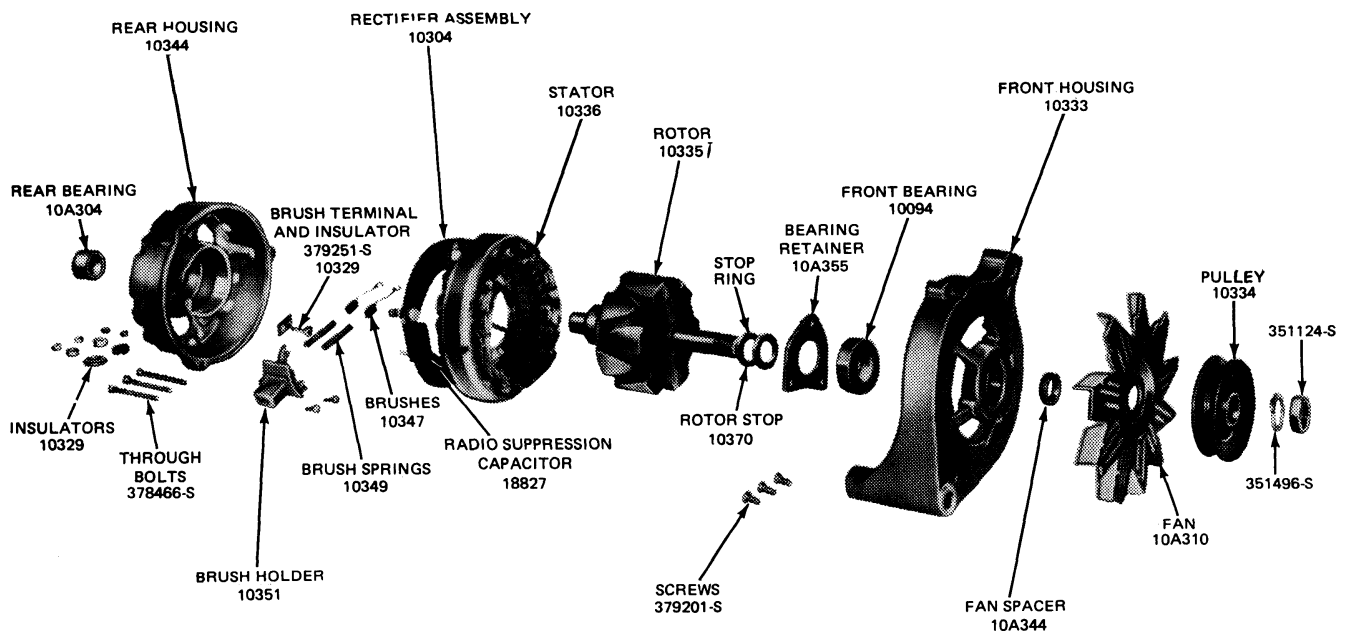

FIG. 4 Disassembled Alternator
Fig. 4 shows a disassembled view of the E.E.D. rear terminal alternator.
2. Press the front bearing in the front housing bearing boss (put pressure on the bearing outer race only), and install the bearing retainer (Fig. 4).